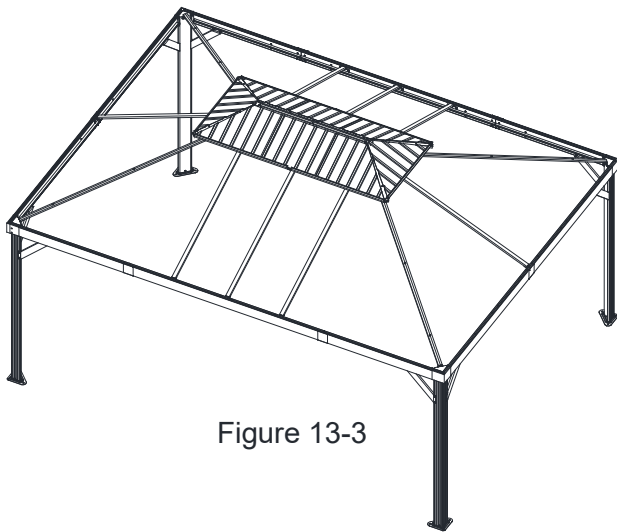

Figure 13-3
13.3: Repeat for opposite sides. Tighten all Bolts. See Figure 13-3.